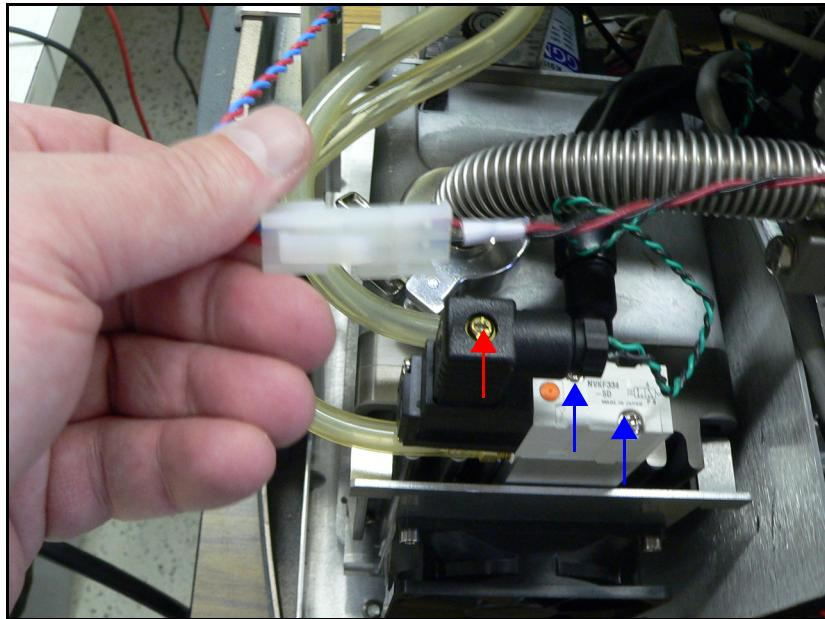

Figure 10: Unit Screws
4. Unscrew the black cover using the Philips head screw, pull up the cover and disconnect (red arrow in Figure 10: Unit Screws)
5. Unscrew the two Philips head screws (blue arrow in "Figure 10: Unit Screws" on page 11) and pull the complete black/grey body up and out.